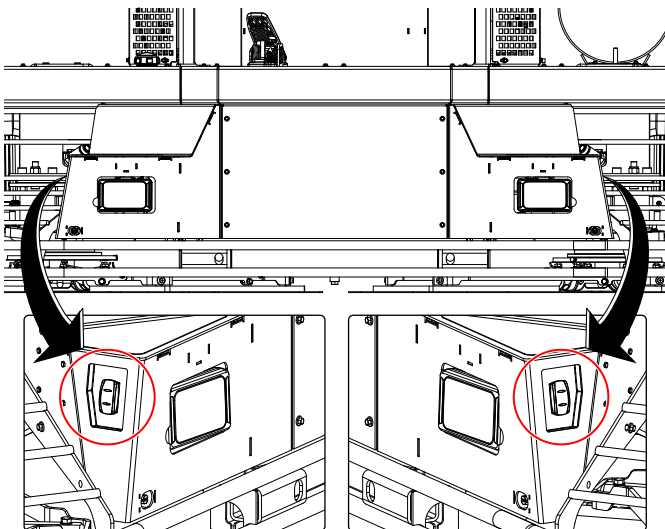

Figure 49. Drive Bypass Switches
2. **Without sitting in the operator's seat**, press and hold one of the **drive bypass switches** (Figure 49). Engine speed will rise to operating speed and **the trowel lights will flash** to remind personnel to **exercise caution** while turning the blades during this procedure.